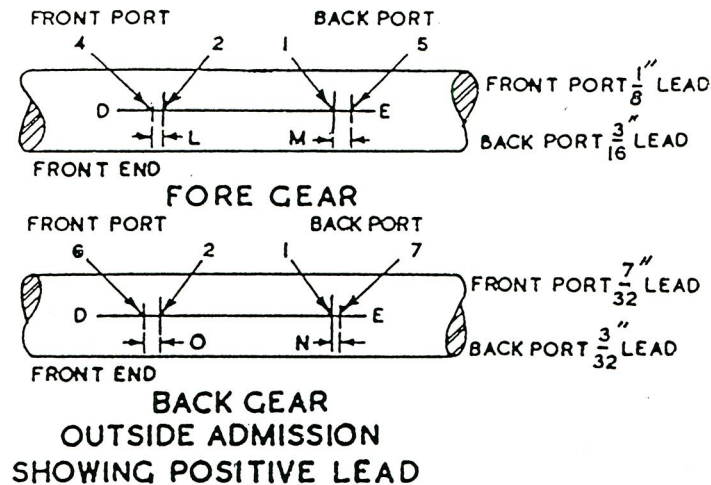

FIG. 51-19.
- (b) Using the valve spindle trammel, scribe an arc on the spindle intersecting the line DE at 4, FIGS. 51-19 and 51-20. The distance L between point 4 and the port opening mark 2 will correspond to the lead of the valve on inner dead centre, but, of course, may not be the lead desired.